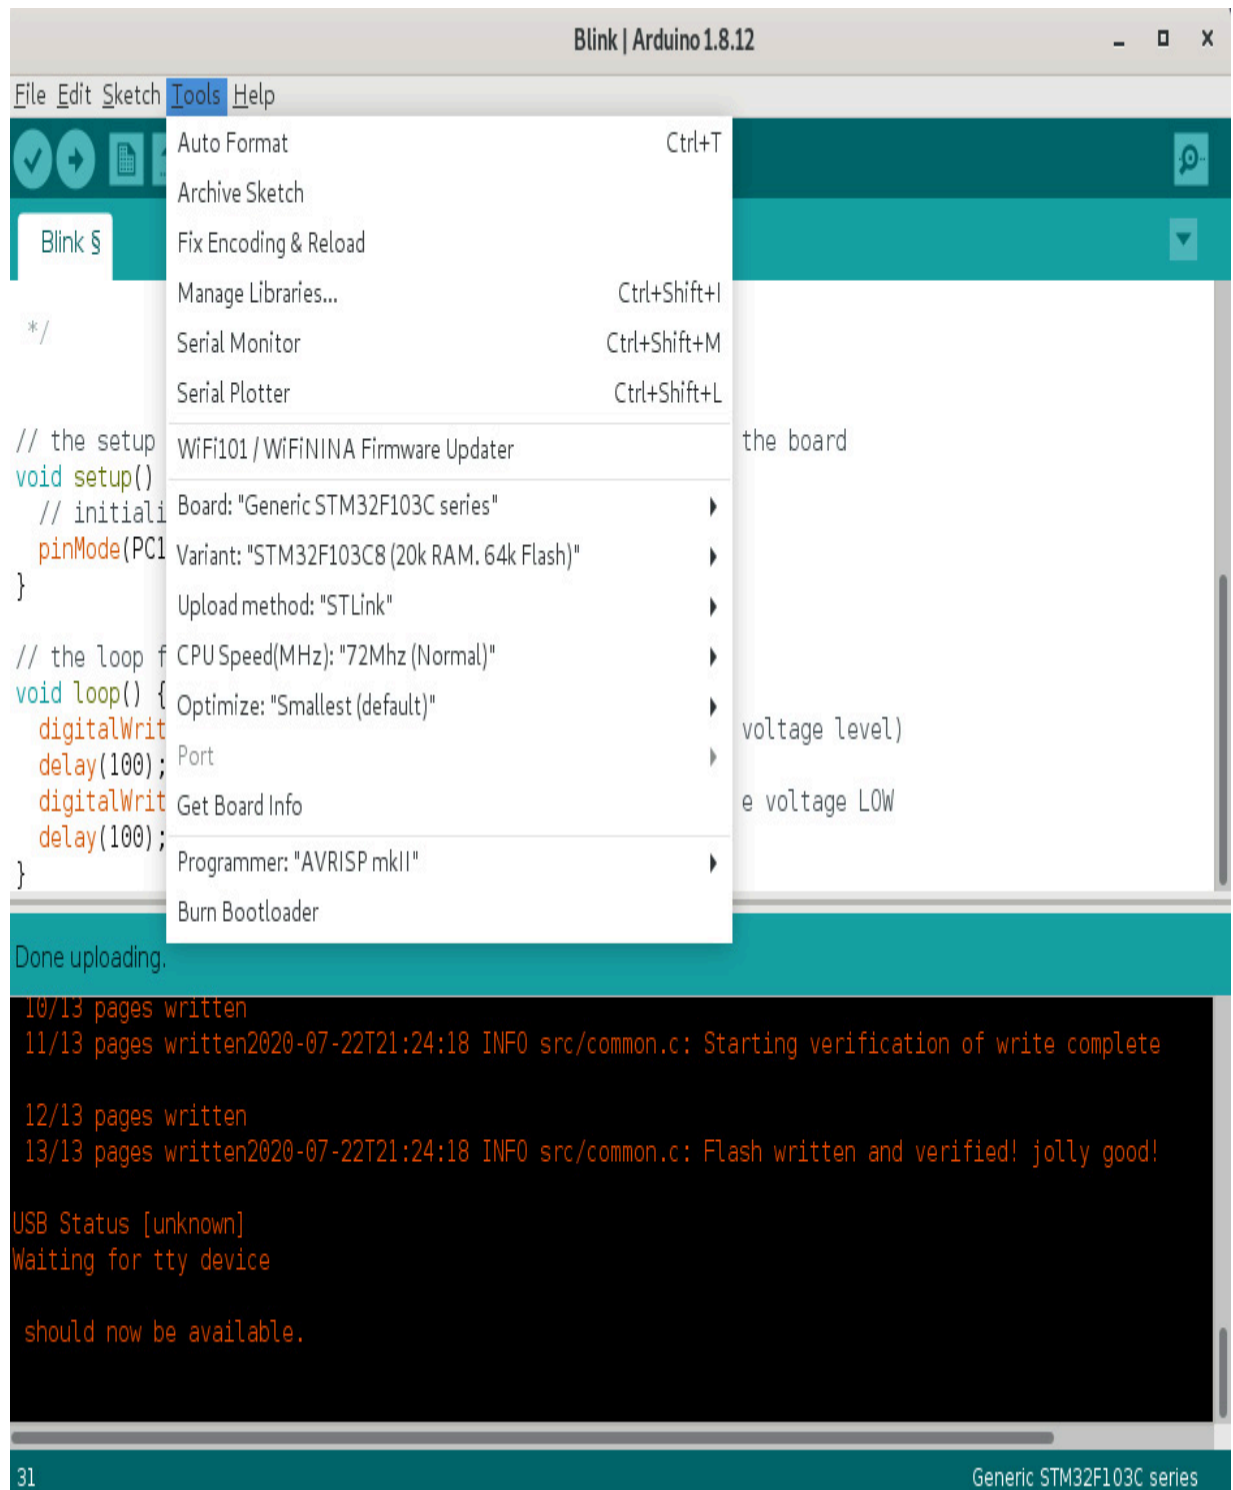

Figure 1.11 – The Tools menu with the necessary options for the Blue Pill
6. Close that box and click on **Tools/Board/STM32F1 Boards** and then select the **Generic STM32F103C series** option, as shown in the following screenshot. Make sure its variant is **64k Flash**, the upload method is **STLINK**, and its CPU speed is **72MHz, Optimize: Smallest**. *Figure 1.11* shows the Blue Pill configuration in the IDE: